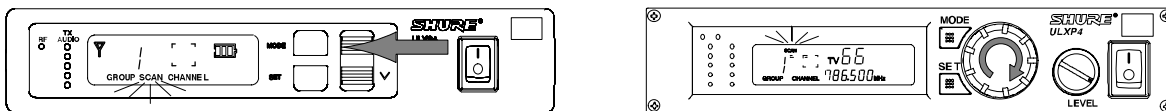

FIGURE 10
- Press the $\wedge$ or $\vee$ buttons (ULXS4) or rotate the control knob (ULXP4) clockwise one quarter turn. The next open Channel number will appear on the display, as shown in Figure 10.